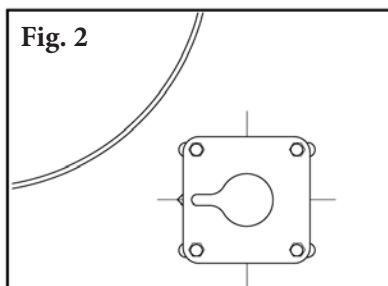

Fig. 2
3. **Install the mounting plates.** Bolt the mounting plates to the chute with bolts provided. Center plates on the slotted holes and tighten bolts (Fig. 2).
2. **Remove the worn blade.** Remove one blade pin and remove the blade from the pole (Fig. 2). Clean all fugitive material from the pole.